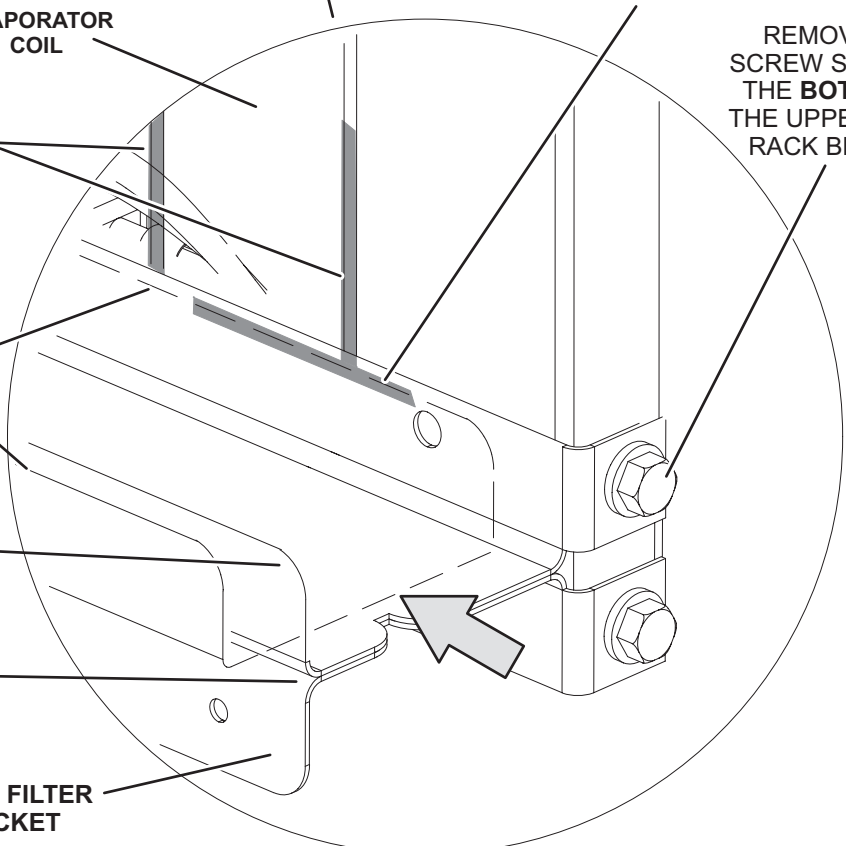

FIGURE 49
The optional, brush-type ionizer produces positive and negative ions to clean air and reduce airborne contaminants. The ionizer was designed to be low maintenance. The device should be checked semi-annually to confirm the brushes are clean for maximum output. The ionizer is located behind the filters. See FIGURE 49.
- 1 - Remove filters, screws securing the top and bottom of the upper filter bracket, and the wire ties the screws hold in place. See FIGURE 49.